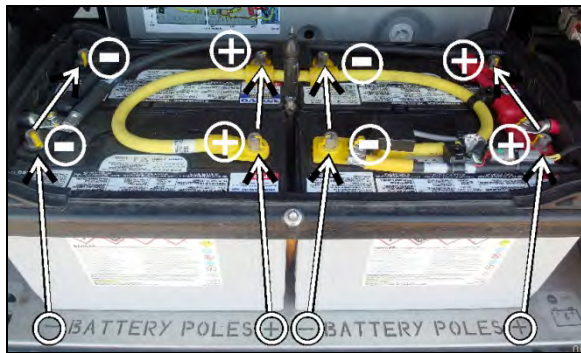

FIGURE 38: BATTERY BANK
1. To respect battery polarity in the arrangement, positive (+) and negative (-) signs are laser cut on the battery deck steel sheet. When installing the batteries, place the battery negative and positive poles according to the signs on the battery deck (Figure 38).